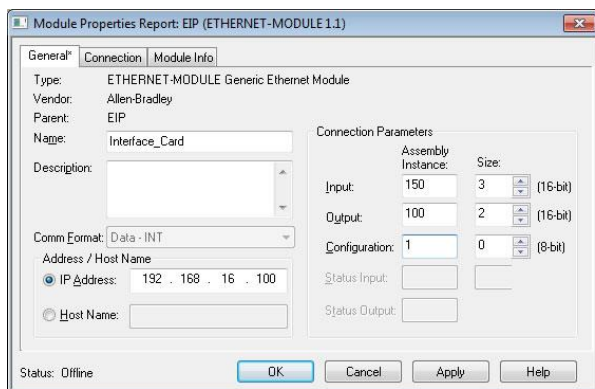

Figure 30: Interface Card Module Properties
- 4) The module properties dialog box will open (refer to Figure 30). Enter a Name which will allow easy identification of the inverter on the network (the tags created in RSLogix 5000 will be derived from this Name). Because all inverter data is stored as 16-bit function codes, change the "Comm Format" selection to "Data-INT". Enter the IP address of the targeted interface card.